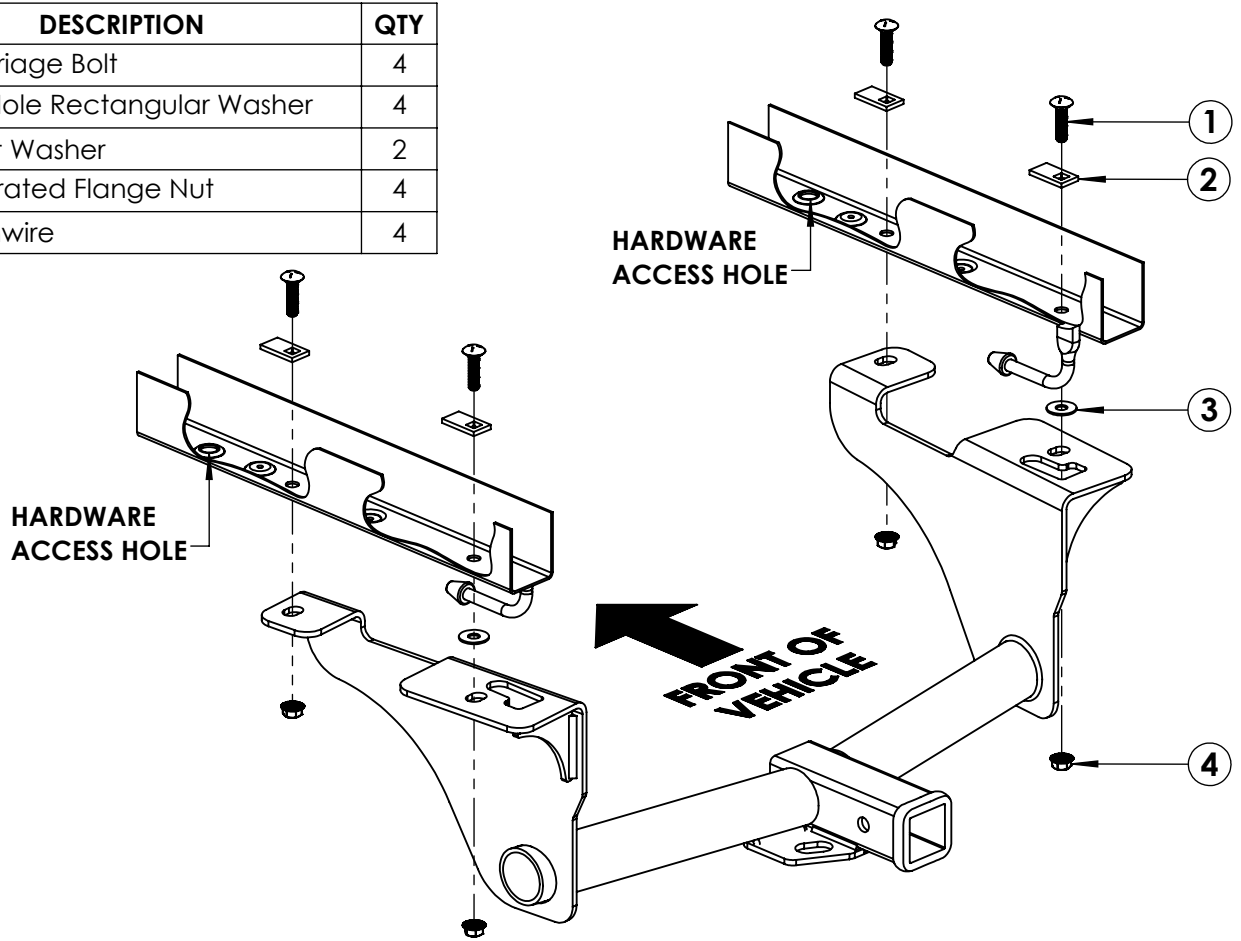

FIG. 1
3. Locate the four mounting holes as well as the hardware access holes on the underside of the vehicle's frame rails and remove the rubber plugs. Fishwire a 7/16" carriage bolt (**ITEM 1**) and a rectangular washer (**ITEM 2**) into each mounting hole, leaving the fishwires attached. See **FIG. 1** for standard fishwire technique.